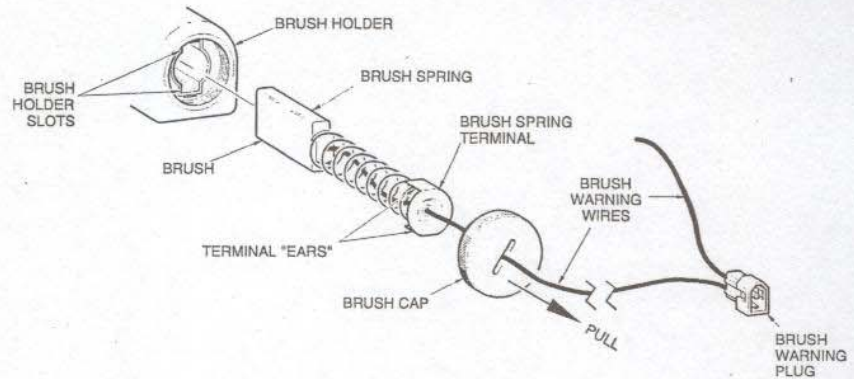

Figure 4-1. Motor Brush Assembly
- e. Pull on the brush warning wire on the outside of the brush cap to remove slack in the wire (see figure 4-1). The wire should pull out from the brush cap approximately 1/4" and then return when released. This check is necessary to ensure that the brush warning wire did not get pinched in the brush spring during installation. If the brush warning wire does not travel freely as described above, loosen the brush cap slightly and try again. If necessary, remove the brush cap and try reinstalling the brush.